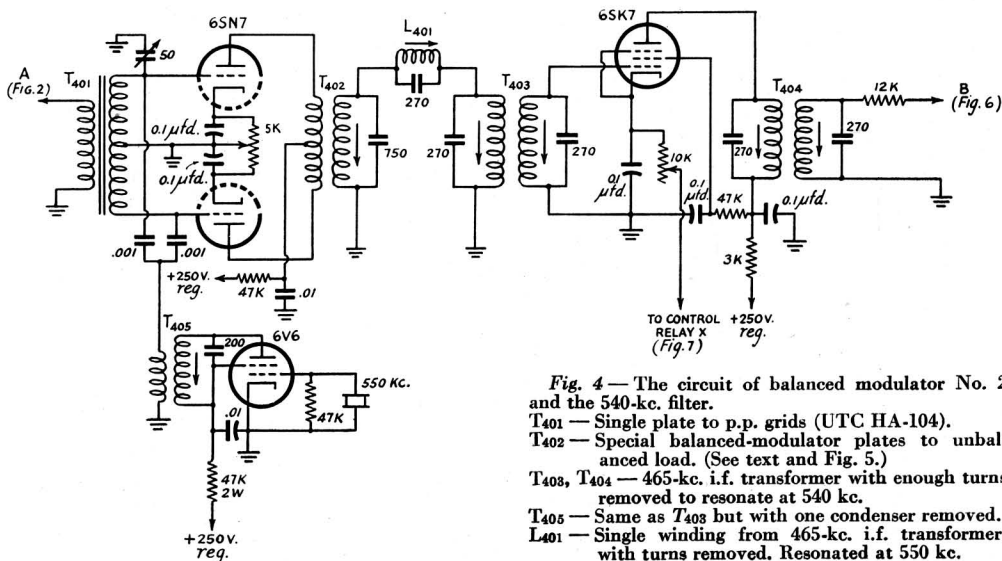

Fig. 4 — The circuit of balanced modulator No. 2 and the 540-kc. filter.
Fig. 4. Coils were obtained from junked i.f. transformers, with turns removed to permit them to resonate around 540 kc. It is desirable to have a tuning range in these transformers of a little more than twice the first-oscillator frequency (9 kc.) so that either sideband can be selected. A crystal oscillator was used in this section mainly because one was available in the junk box, but a good self-controlled oscillator, running continuously from a regulated power supply, should serve just as well. Injection voltage from this oscillator to the modulator was set at 2 volts, as was the case in the other two modulators, although this value is not very critical.
Fig. 5 — Winding details of the  $T_{402}$  of Fig. 4. The primary consists of two strands of No. 32 d.s.c., close-wound parallel for a winding length of 2 inches. The secondary is 50 turns of No. 32 d.s.c., scramble-wound between two pasteboard rings. Several layers of writing paper are wound over the primary before starting the secondary. The coil is tuned with a 1-inch powdered-iron slug.
- $T_{601}$  — Same as  $T_{402}$ , Figs. 4 and 5.
The third, or output, section is tuned in the same manner by peaking each circuit for maximum output. When all circuits have been tuned, with the exception of the traps,  $L_{401}$  and  $L_{603}$ , the second modulator (Fig. 4) must be balanced. The controls for doing this are the 5000-ohm potentiometer in the cathode